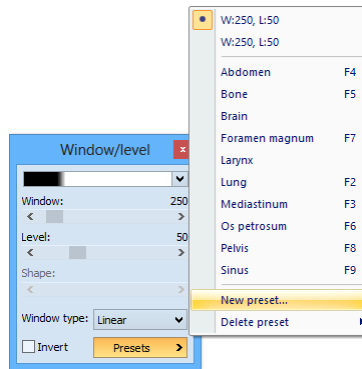
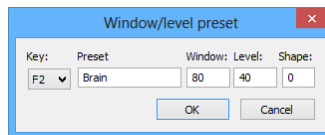

Figure 159 – Creating a new window/level preset
Figure 160 – Window/level preset dialog – defining a new preset
3. Select the **New preset...** menu item (see Figure 159) in the displayed list. The **Window/level preset** dialog (see Figure 160) is then displayed. The initial values for the window, level shape and palette graduation type (even if not displayed) are the same as the current window/level settings in the current view.